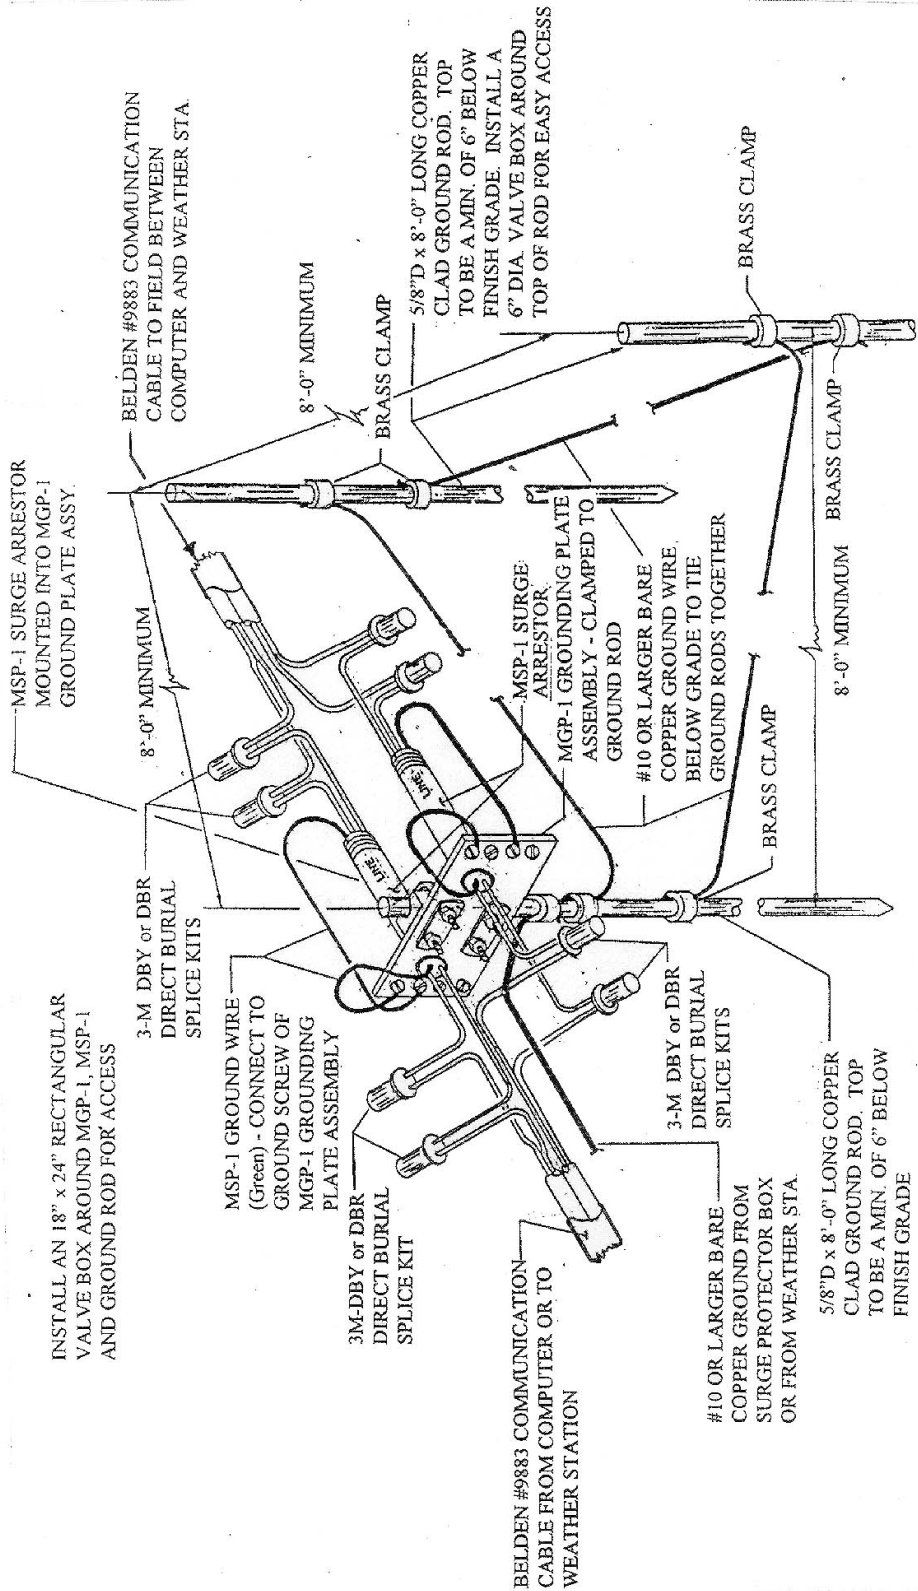

FIGURE 28 - TYPICAL 3-ROD GROUNDING GRID DETAIL
A typical 3-rod grounding grid shall consist of three (3) 5/8" diameter x 8'-0" long copper clad grounding rods. The rods shall be in a triangular arrangement, if at all possible, with each rod at least 8'-0" away from any other rod.(refer to **FIGURE 28** below). If it is impossible to arrange the rods in a triangular pattern then they may be arranged in a straight line (although NOT as effective) with each rod at least 8'-0" from any other rod.
REFER TO FIGURE 28 ON THE NEXT PAGE